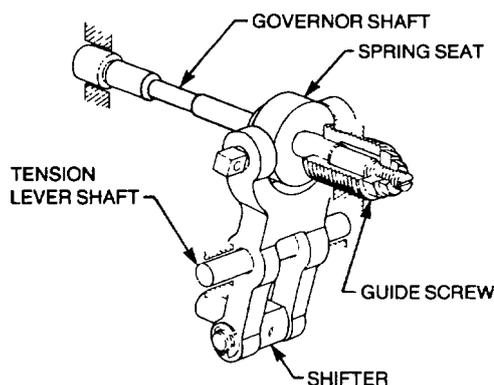

**Figure 25 Flyweights Closed**
64. The flyweight holder (refer to Figure 25) is secured to the rear of the injection pump camshaft by means of a taper, woodruff key and a lock nut. The flyweights are secured to the holder by press-fit pins, around which the flyweights pivot. When the camshaft revolves, the flyweight holder and the flyweights revolve with it. As the camshaft speed increases, the flyweights move outward due to centrifugal force. This action causes the sliders, which are fixed to the arms on the flyweights, to push against a sleeve which causes the sleeve to move in an axial direction (refer to Figure 26).